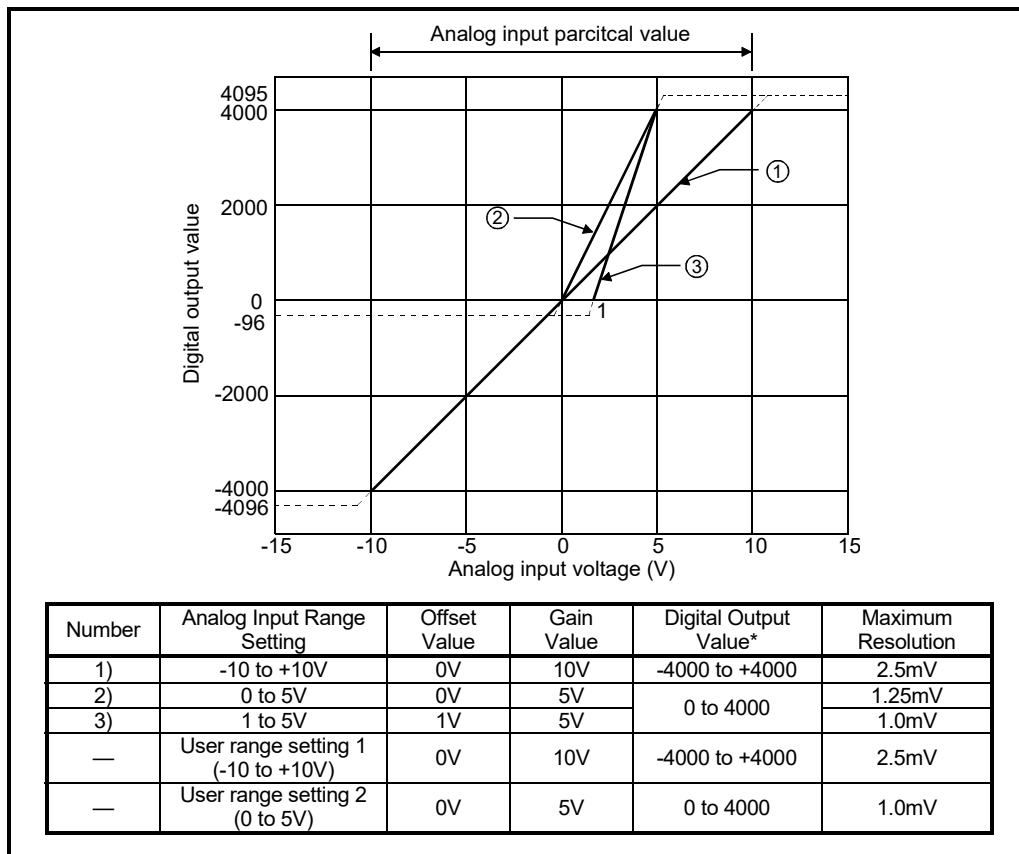

Fig. 3.1 Voltage Input Characteristic of the AJ65VBTCU-68ADVN
- (1) Do not input more than $\pm 15V$. The element may be damaged.
- (2) If the analog input provided corresponds to the digital output value* beyond its range, the digital output value is fixed to the maximum or minimum.
- (3) Within the analog input and digital output scopes of each input range, the maximum resolution and accuracy are within the performance specification range. Outside those scopes, however, they may not fall within the performance specification range. (Avoid using the dotted line part in Fig. 3.1.)
- (4) Set the offset and gain values of the user range setting within the range satisfying the following conditions.